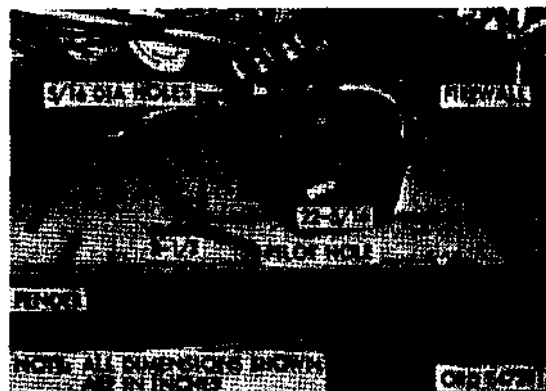

Figure 602. Locating heater unit
- (7) Place the hood side panel in the lowered position. Locate and drill a 5/16-inch hole on the left front fender as shown in figure 602.